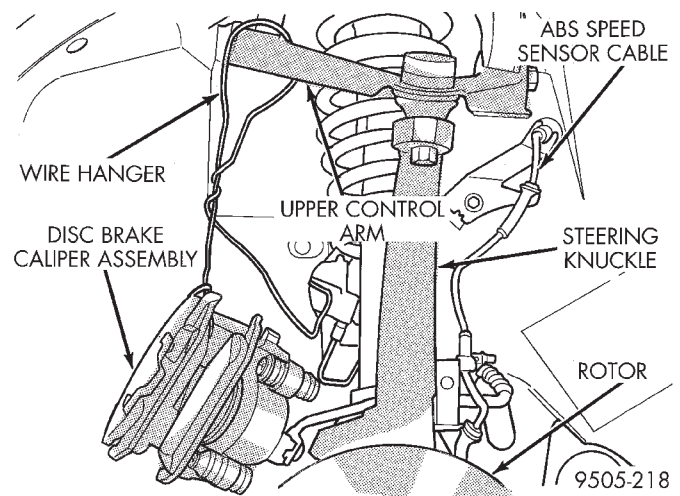

Fig. 62 Correctly Supported Front Disc Brake Caliper
(7) Support brake caliper/adaptor assembly using a wire hook (Fig. 62) and not by hydraulic hose.